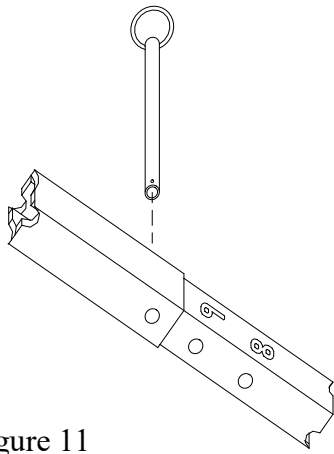

Figure 11
22. To adjust goal height remove detent pin and raise to desired height and reinstall detent pin. See Figure 11.